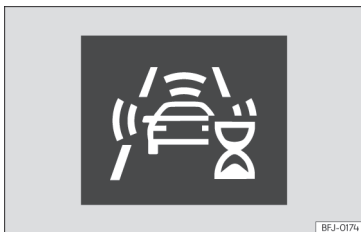

Fig. 122 On the instrument cluster screen: indication of the system's initial self-calibration.
- In the first few instants of driving after switching on the ignition, due to the system's initial auto-calibration. During this period, a status icon  Fig. 122 is displayed.